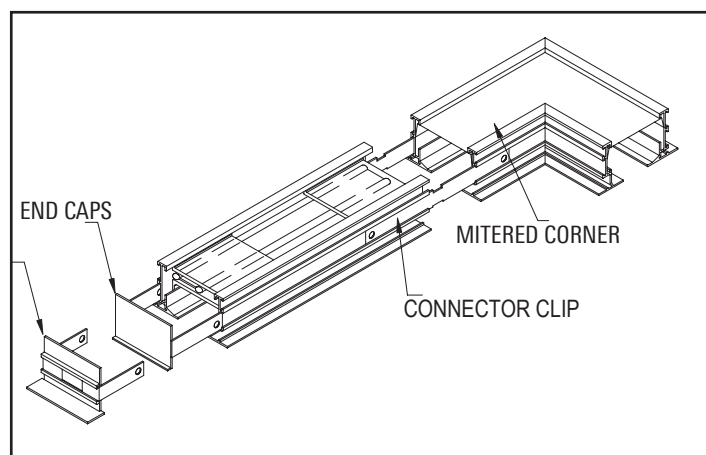

Figure 5. Installation of End Caps & Mitered Corner
- ☐ Install and secure end caps and mitered corners if required as shown in Figure 5.